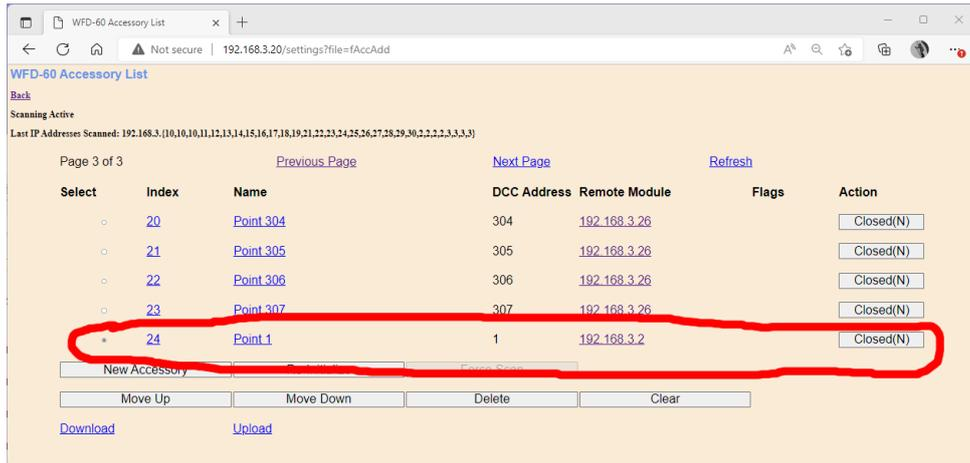
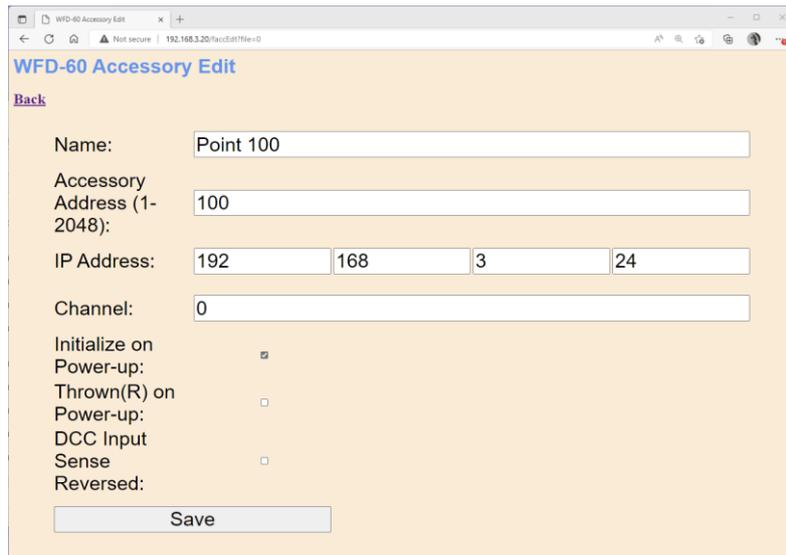

Figure 59 The Accessories List Page after the New Accessory Button is Clicked.
Figure 60 The Accessory Edit Page. Setting the Properties of a New Accessory to Useful Values.
- (1) By the WFD-60 Scanning Process. The WFD-60 automatically scans a range of IP Addresses on your home network between the bounds defined in the Settings page as First Scan Address and Last Scan Address. The scanning process only occurs if the Rail Mesh Scanning Enabled checkbox is checked or if you initiate a forced scan. Scanning is enabled by default after leaving the factory and after a factory reset. By default, the First Scan Address is set to 2 and the last is set to 30. If you have many computers or devices on your home network, you might need to extend this.
- (2) By adding Accessories manually. The New Accessory button on the Accessories List page will add a new accessory to the roster. The new accessory, in Figure 59, will have default values which will not normally represent an accessory on your layout, so you will have to define the settings manually as in Figure 60.
Clicking the hyperlink on Figure 59 formed by the index or the name of the Accessory, will open the Accessory Edit page in Figure 60. Do not click the Remote Module hyperlink at this time.